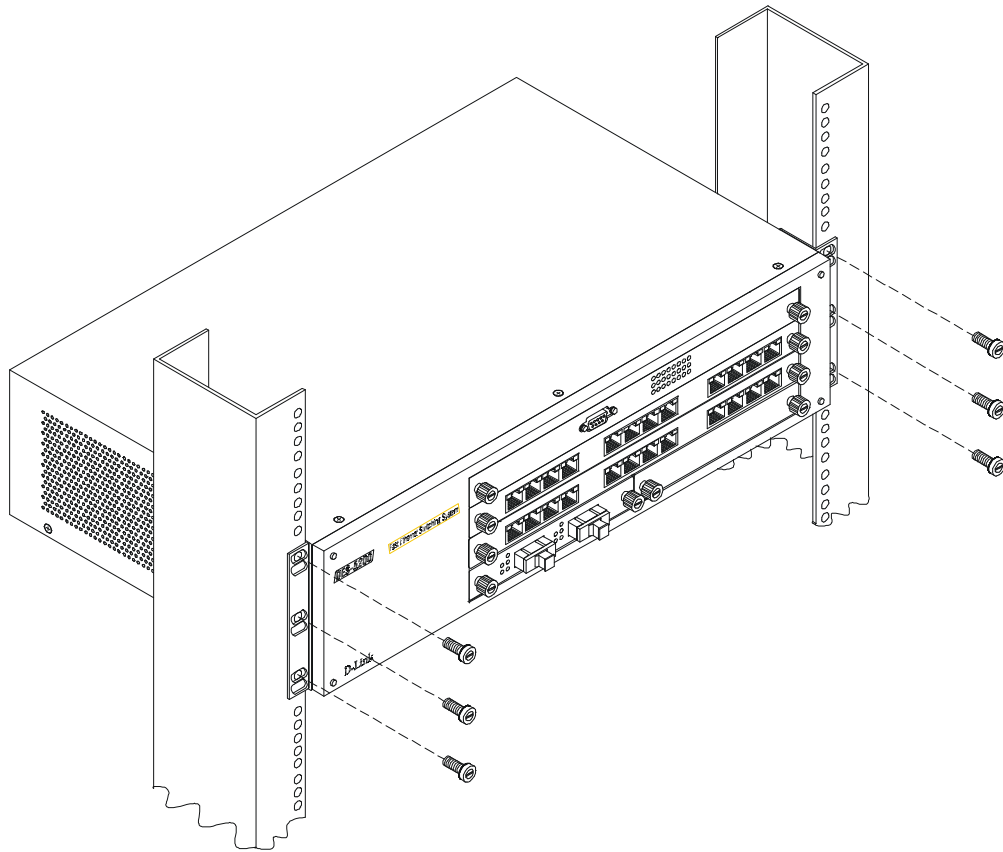

Figure 8: Insert into Rack
2. Slide the DES-5200 into the rack and use the screws provided to secure the DES-5200 to the rack. See Figure 8.